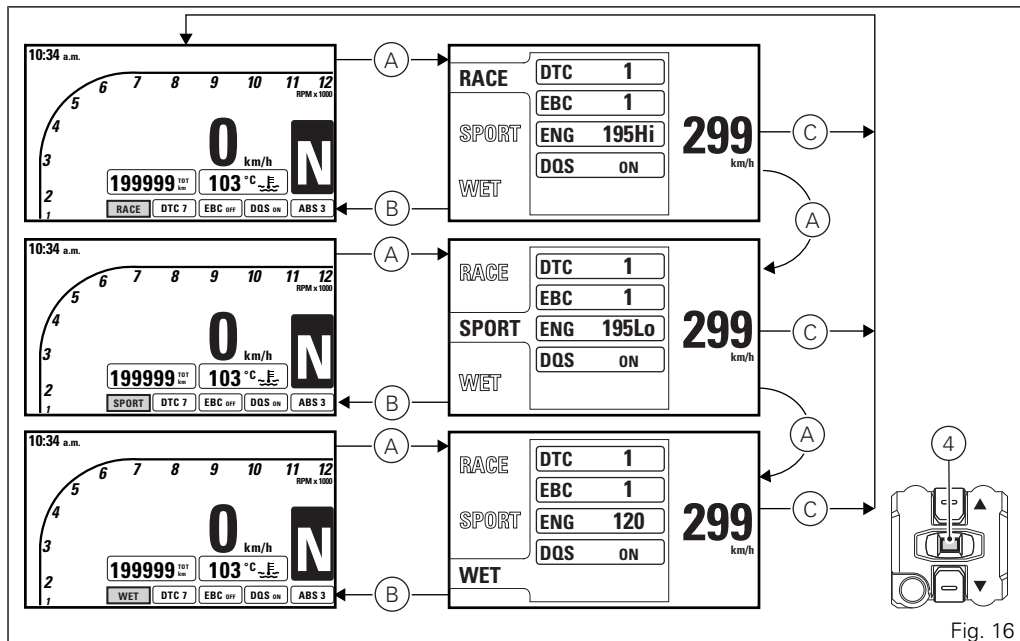

Fig. 16
The displayed information is the settings stored in every single Riding Mode. The stored settings may be the factory ones (Ducati default settings) or the ones customised by the owner. Any time the CONFIRM MENU button (4) is pressed, you highlight a riding mode and the associated parameters are displayed (A, Fig. 16).
Once the desired riding mode is highlighted, confirm the selection by holding down the CONFIRM MENU button (4) for 2 seconds: the new riding mode selection is stored and the Standard Screen is displayed (B, Fig. 16).
Once the desired riding mode is highlighted, if the CONFIRM MENU button (4) is not pressed within 10 seconds, the new riding mode selection is not stored and the Standard Screen is displayed (C, Fig. 16).